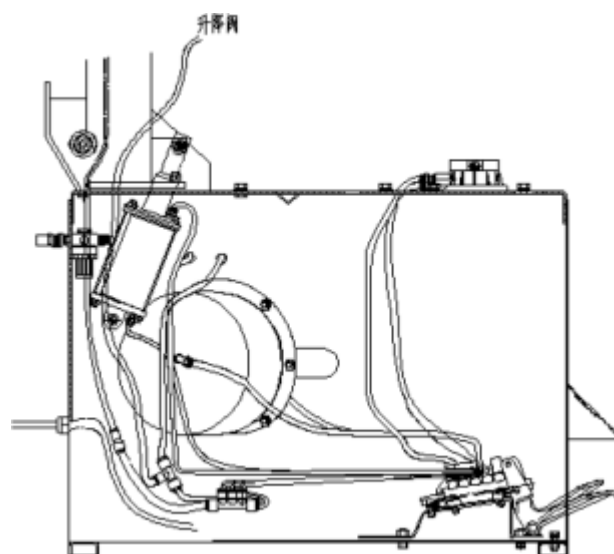

Fig 16
- 3) Connect the air hose to the corresponding T-joint through the rear hole of the body (Fig 16).